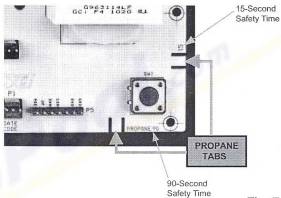

Fig. 7
1. Locate the proper propane tab on the board as shown in Fig. 7.